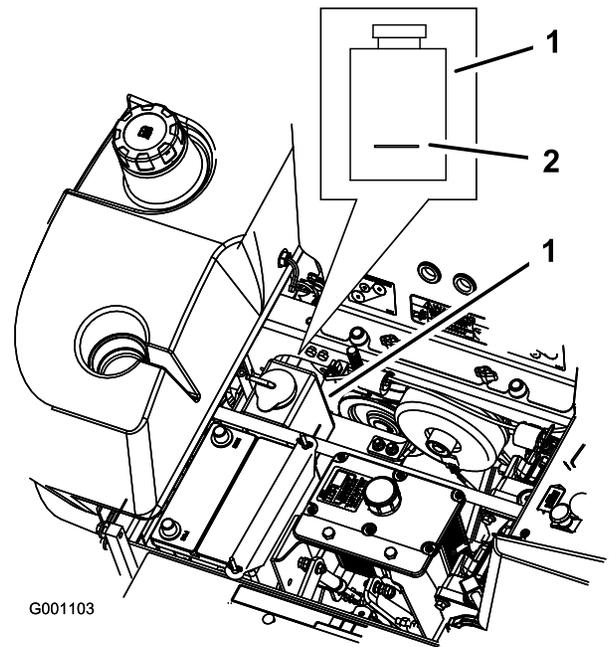

Figure 84
3. With the engine cool, check the overflow bottle level. The fluid needs to be up to the bump on the outside of the overflow bottle (Figure 84).
4. If the coolant level is low, add a 50/50 mix of extended life antifreeze/Dex-Cool® and water to the overflow bottle (Figure 84).
5. Add the 50/50 coolant mix to the overflow bottle and fill it to the indicator line on the bottle (Figure 84).